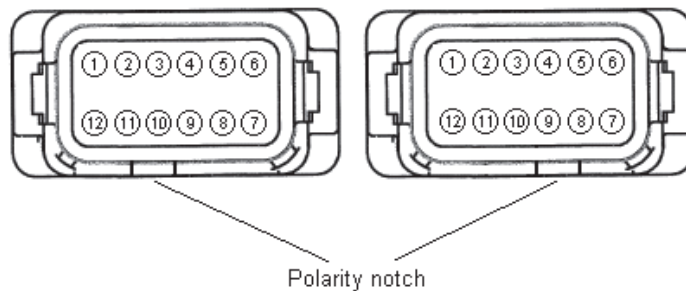
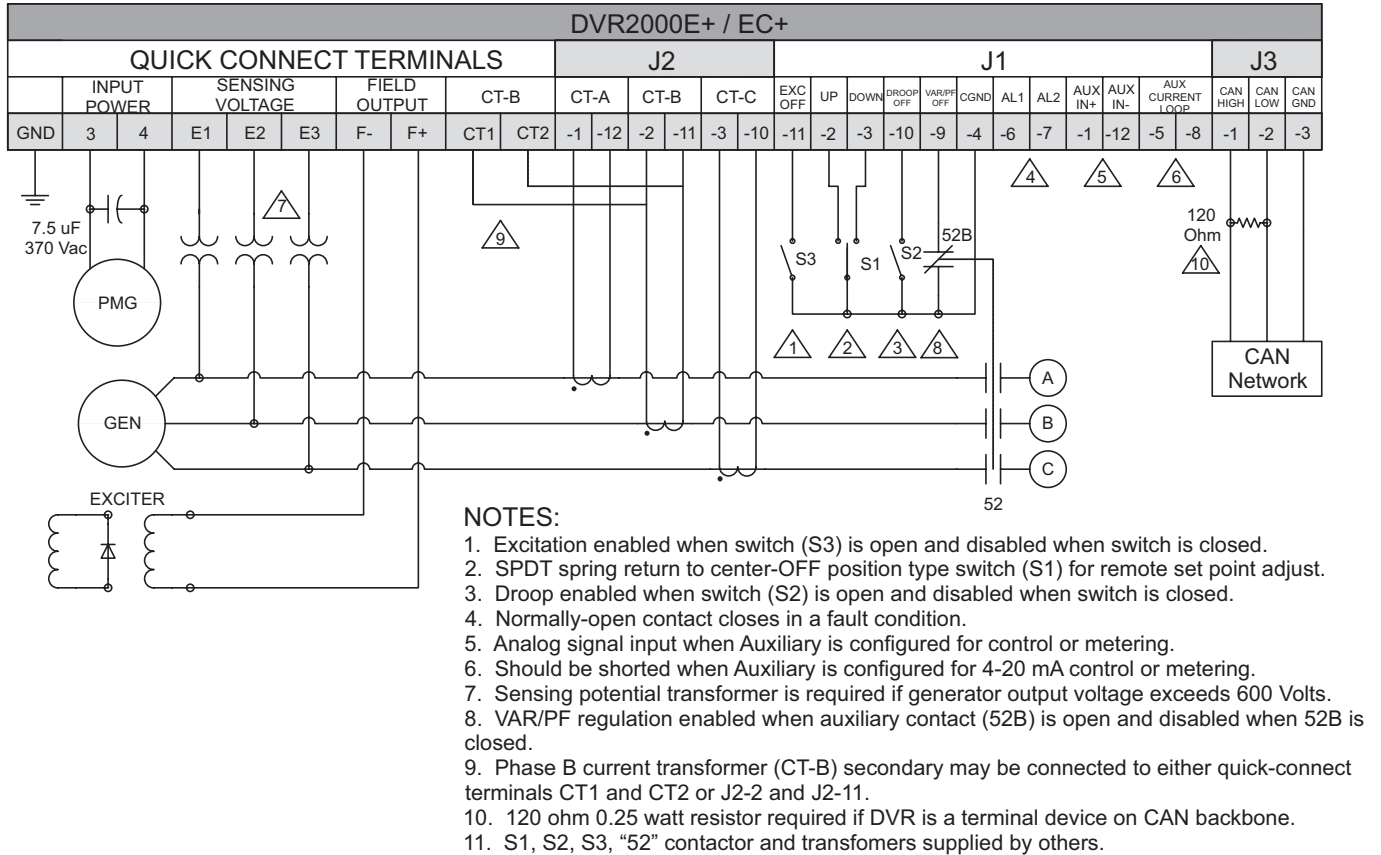

Figure 5-5. System Connectors J2 (left) and J1 (right) Terminal Position
Figure 5-8. Typical Connections with ABC Rotation, Three-Phase Voltage Sensing and Three-Phase Current Sensing
Generator line current is stepped down through user-supplied CT's. Secondary current (5A) from these transformers is applied to the J2 connector. Consult CT instruction manuals for polarity identification and install per Figure 5-8. See Figure 5-5 and Table 5-2 for terminal assignments. **Note:** All transformers should have the same CT ratio.
Figures 5-8 through 5-11 illustrate typical applications using the DVR®.
- Figure 5-8 shows an application where the regulator is connected for three-phase voltage sensing and three-phase current sensing.